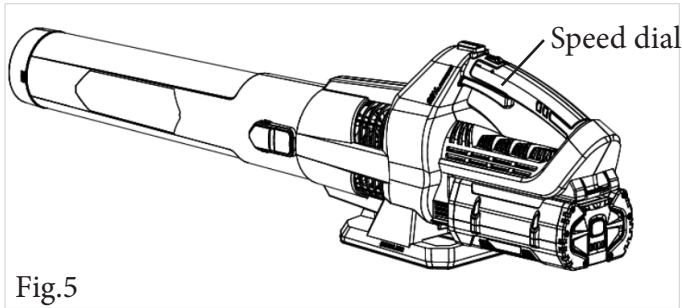

Fig.5
- a) Turn the power selector backward from "0" to "6" to increase the blower power (Fig.5)
- b) Turn the power selector forward from "6" to "0" to decrease the blower power (Fig.5)